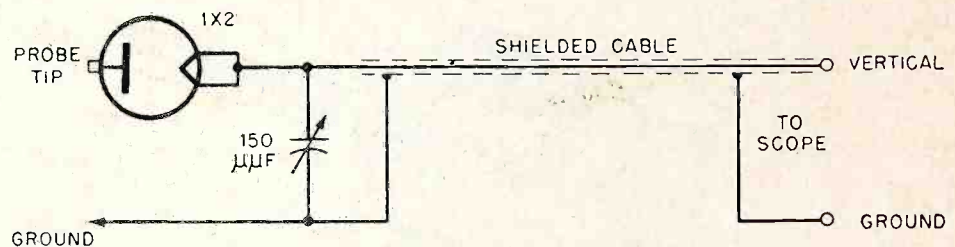

Fig. 1. Typical voltage-doubler crystal probe.
*Voltage-doubler Probe.* In Fig. 1 is shown the circuit diagram of a voltage-doubler crystal probe. This is perhaps the most useful general-purpose probe. Construction is straightforward, provided usual consideration